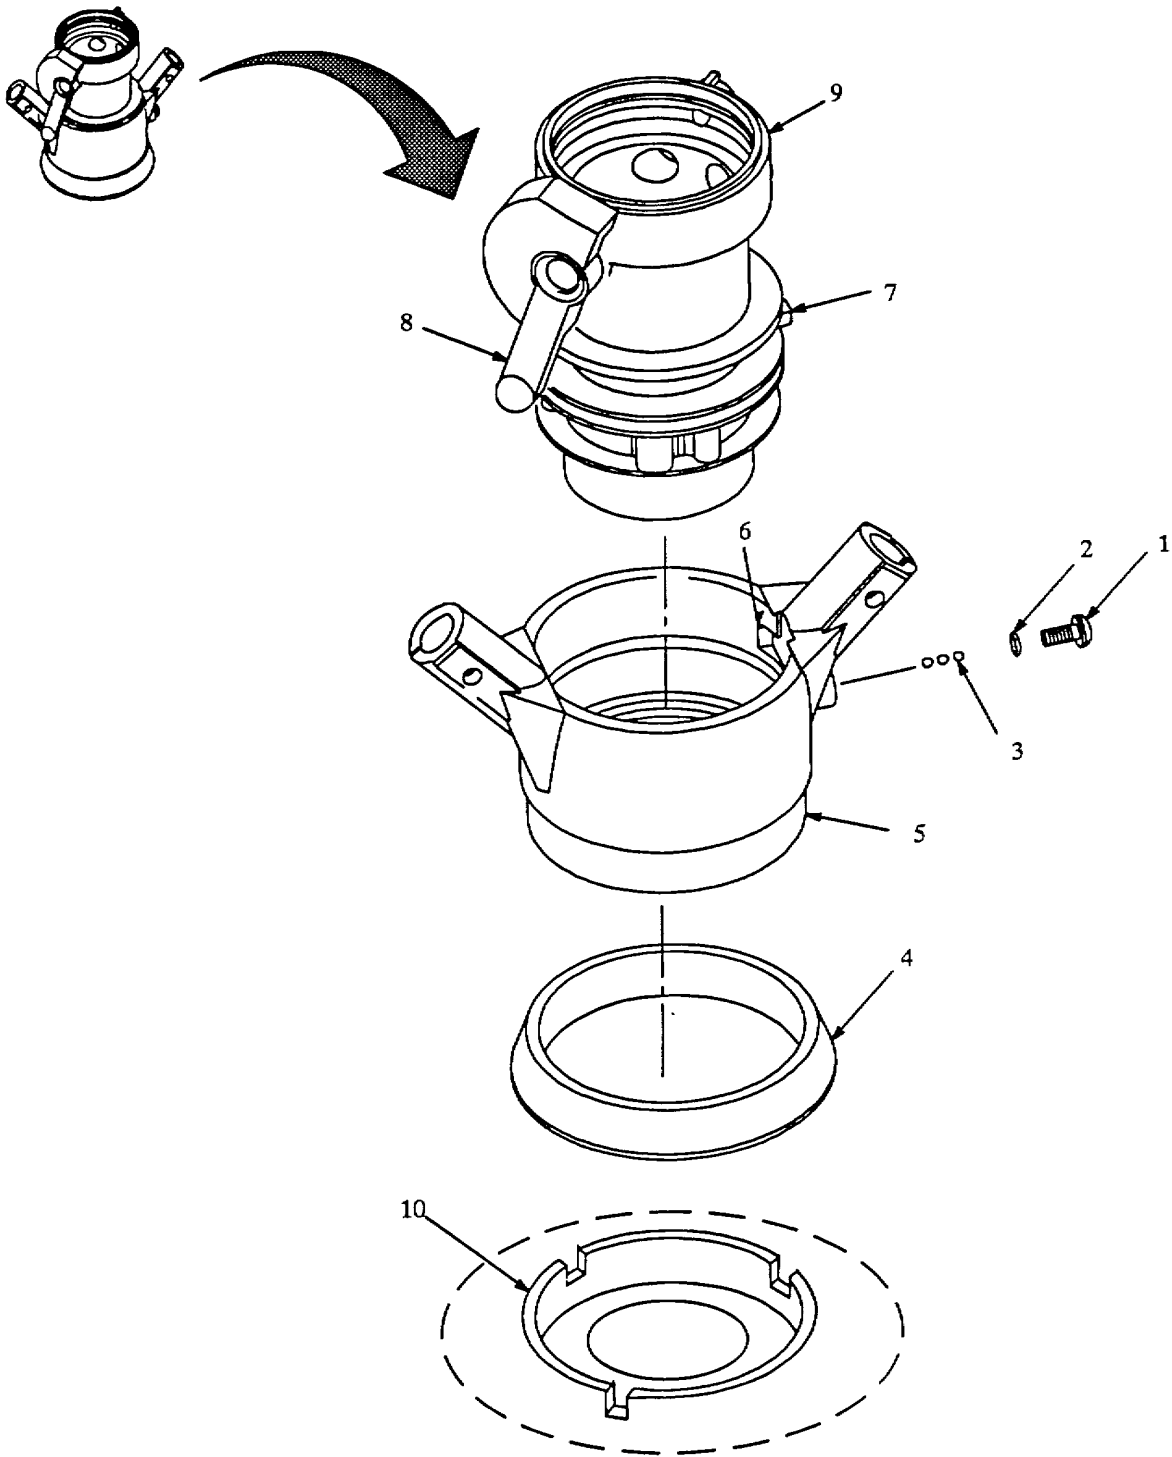
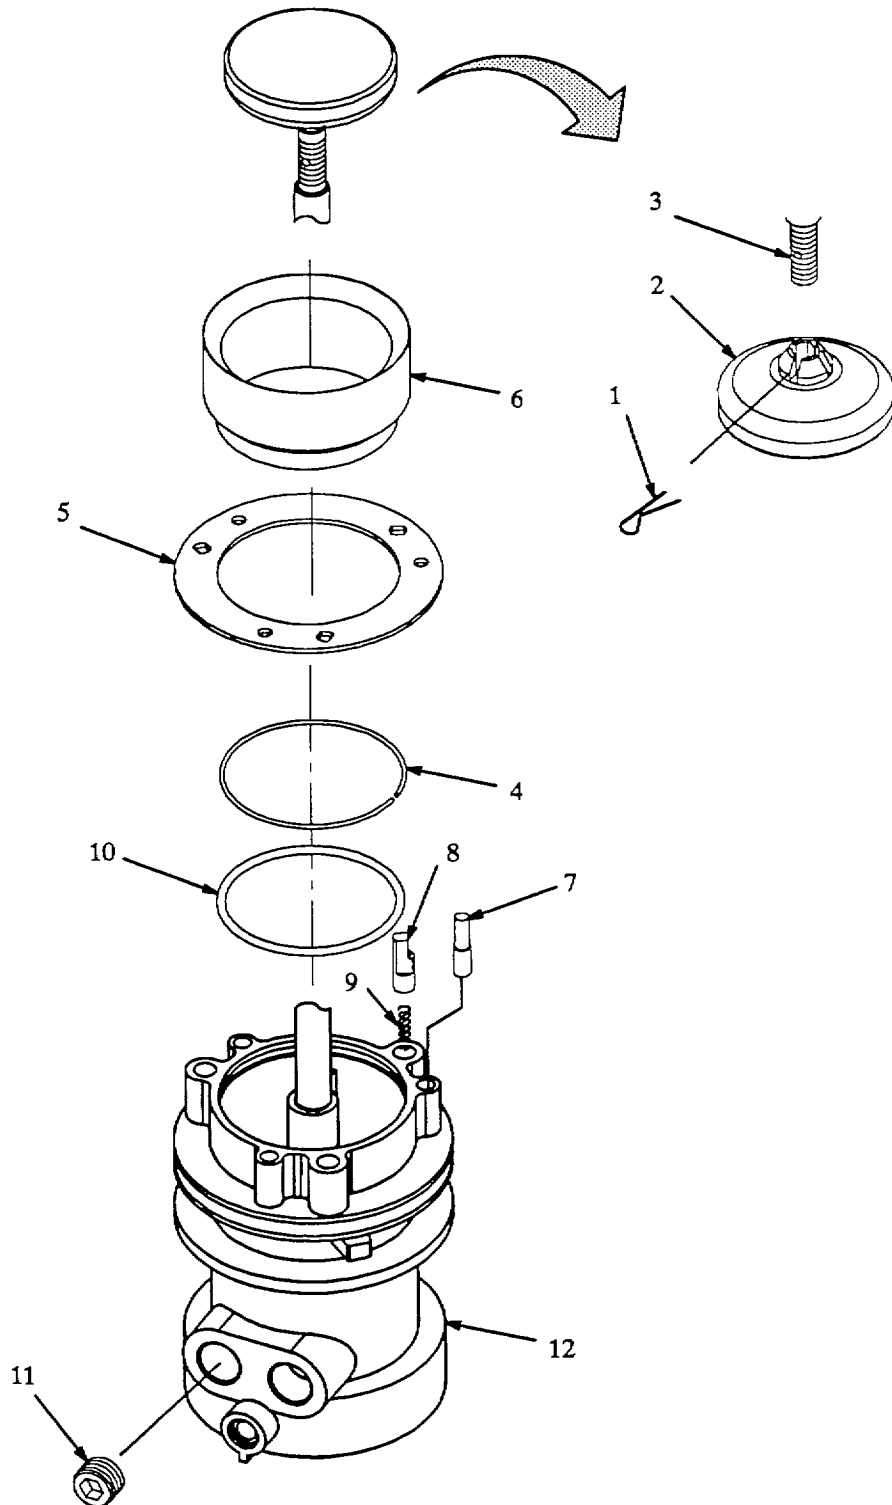
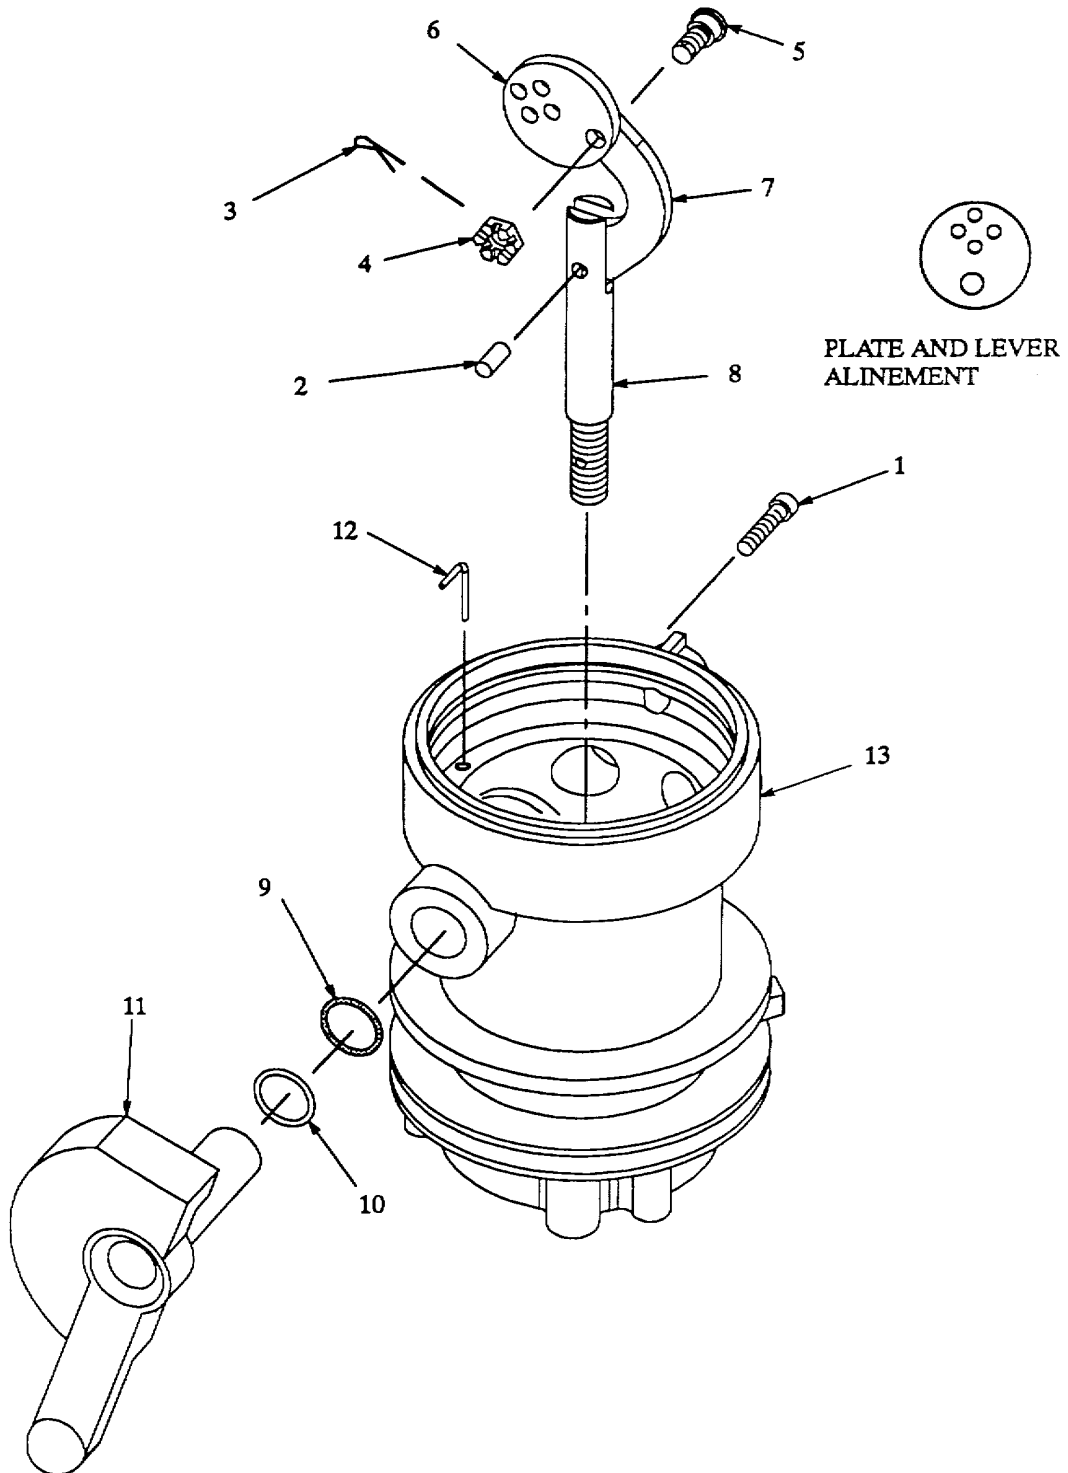

Figure 5-5. Nozzle Body and Collar Disassembly.
Figure 5-6. Nose seal Disassembly.
Figure 5-7. Control Linkage Disassembly.
- (1) Functional Test. Refer to figure 5-6.
- (a) Attempt to move lever (1) to the OPEN position. Lever must not move to OPEN position.
- (b) Connect nozzle (2) to test adapter (3) (para 2-12b).
- (c) Rotate lever (1) to the OPEN position until it passes over center and stops against the internal stop.
- (d) Grab handles (4) and attempt to remove nozzle (2) from adapter (3). Nozzle should not disconnect.
- (e) Position lever (1) to CLOSE, then OPEN position. Repeat a minimum of five times. Lever should be not bind or require excessive force to operate and must lock over-center in the CLOSED position.
- (f) Position lever (1) to CLOSED position, and disconnect nozzle (2) from adapter (3) (para 2-12b).
- (1) Remove screw (1, figure 5-5) and attached preformed packing (2) from collar (5).
- (2) Position collar (5) so that opening for balls (3) is pointing down.
- (3) Rotate body (9) back and forth on collar (5) until 49 balls (3) are removed.
- (4) Connect collar (5) to adapter (10).
- (5) Rotate body (9) to the left until index lug (7) aligns with groove r6) in collar (5).
- (6) Remove body (9) from collar (5).
- (7) Remove collar (5) from adapter (10).
- (8) If required, cut and remove bumper (4) from collar (5).
- (9) Position body (9) with poppet (2) pointing up, then rotate lever (8) to open position (poppet extended).
- (10) Remove cotter pin (1, figure 5-6) and unscrew poppet (2) from shaft (3).
- (11) Pull seal (6) and attached parts from body (12).
- (12) Remove snap ring (4) and plate (5) from seal (6).
- (13) Remove three lock pins (8) and springs (9) from body (12).
- (14) Remove three index pins (7) from body (12).
- (15) Remove preformed packing (10) from body (12).
- (16) Remove plug (11) from body (12).
- (17) Working through plug hole, remove four socket head screws (1, figure 5-7) that secure plate (6) to lever (11).
- (18) Lift plate (6) and attached parts from body (13).
- (19) Push out dowel pin (2) and separate link (7) from shaft (8).
- (20) Remove cotter pin (3) and nut (4) from pin (5).
- (21) Unscrew pin (5) from plate (6) and remove arm (7).
- (22) Remove ground clip (12) from body (13).
- (23) Remove lever (11), backup ring (10) and preformed packing (9) from body (13).